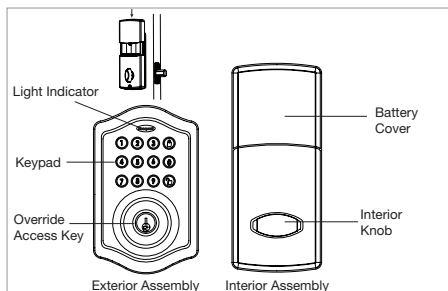

Figure 5a-5b
- Insert 4 AA high quality Alkaline batteries into the Battery Compartment in the direction noted +/- on the Compartment. The Lock will beep 2 times, the key pad will illuminate blue, and the Honeywell button will flash green twice to signify that it has received power (Figure 5a).